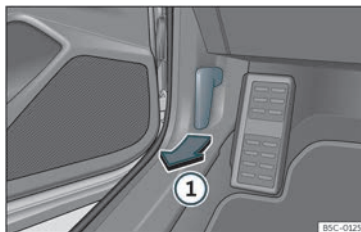

Fig. 212 Release lever in the driver's footwell area.
- Open the door and pull the lever under the dashboard»» **Fig. 212** ①.